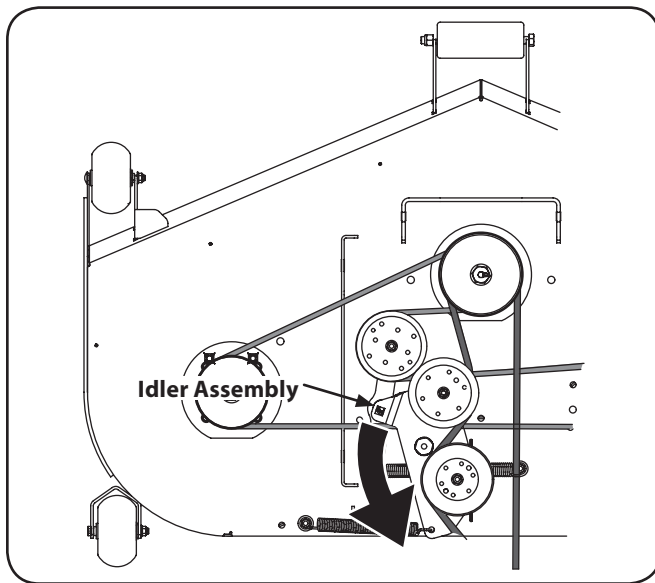

Figure 7-4
- Using a $\frac{1}{2}$ " drive in the idler pulley bracket, turn the wrench towards the back of the tractor and slide the belt off the PTO pulley. See Fig. 7-4.